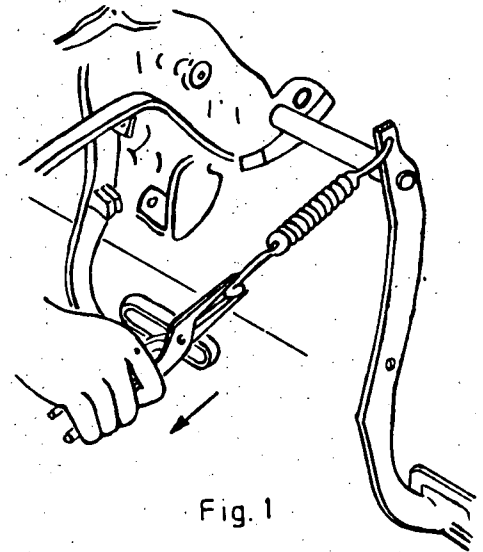

Fig. 1
- a) Remove the return spring from the pedal using a pliers. (Fig. 1)